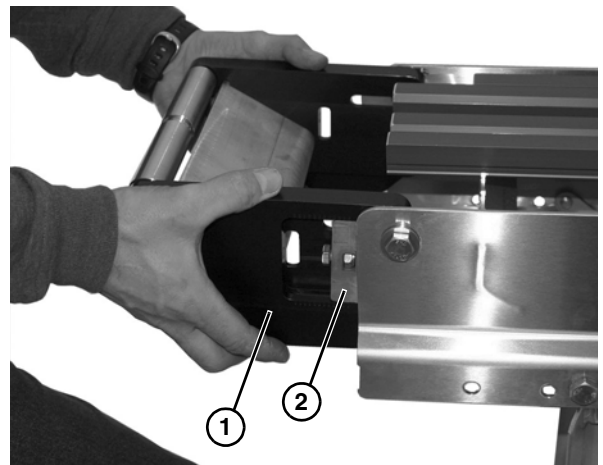

Figure 48
- Slide the nose bar idler (Figure 48, item 1) off the pivot tail blocks (Figure 48, item 2).